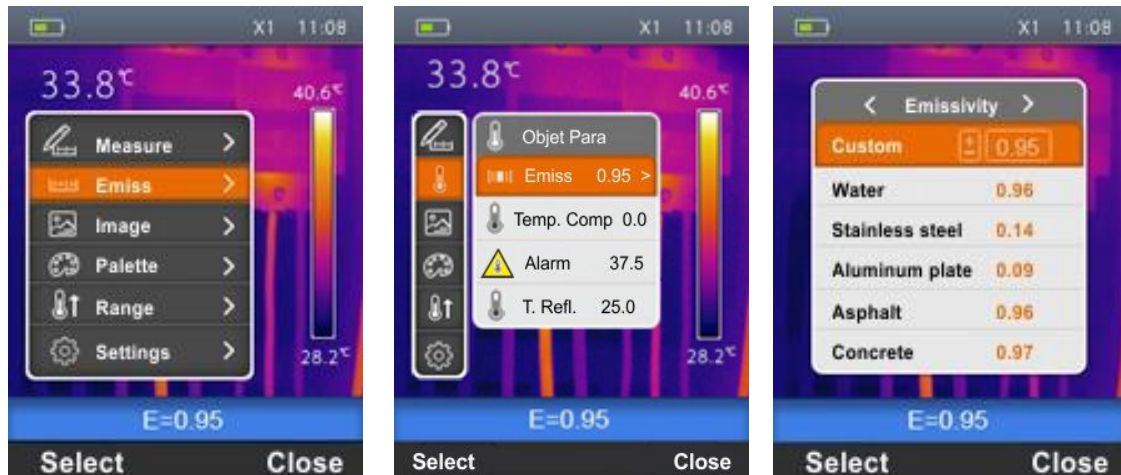

Fig. 18: Setting Emissivity on the instrument
1. Select the item "Emiss" with the keys $\oplus$ or $\ominus$ and press the key $\Rightarrow$. The screen Fig. 18 – Central part is shown on the display.
1. Use the keys $\oplus$ or $\ominus$ to select the item "Emiss" and press the key $\Rightarrow$. The screen Fig. 18 – Right side is shown on the display